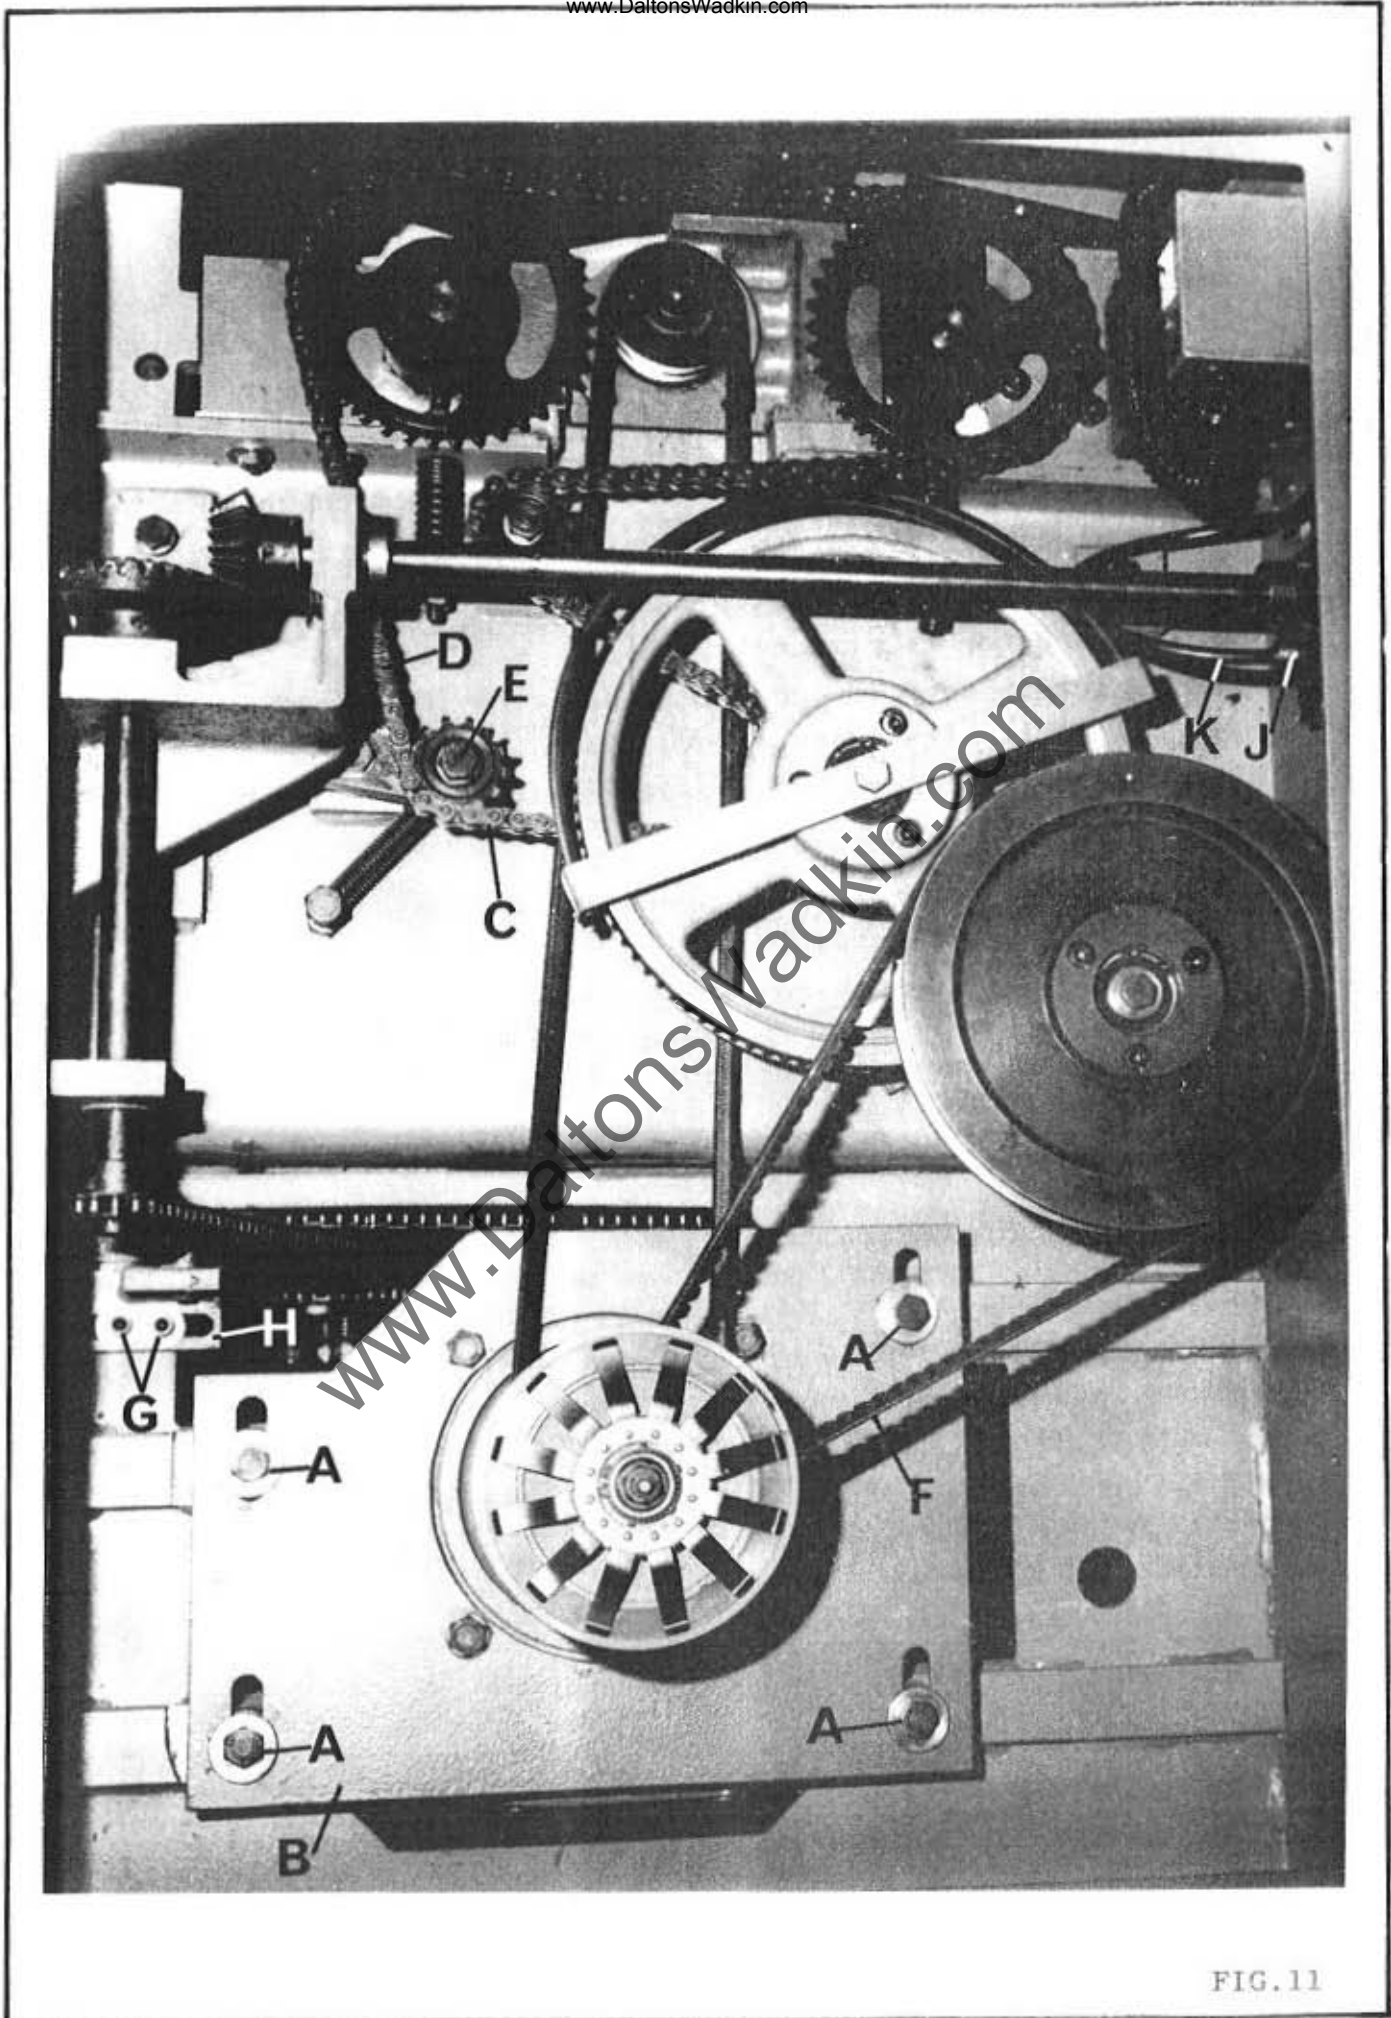

FIG. 11
5. Loosen the two M4 socket head grubscrews J (FIG.11) and remove cable K, then turn shaft of indicator until indicator display corresponds to measured timber thickness.
3. Loosen 4 - M12 hexagon bolts A (FIG.11),
Feed roller drive is transmitted from main motor through a variable pulley and belt, to belt driven final drive chain D (FIG.11). Chain is automatically tensioned by chain tension sprocket E.
4. Remove variable drive belt F (FIG.11).
Should excessive free play be felt in the rise and fall chain this should be adjusted, and as such the following sequence adopted(FIG.11)